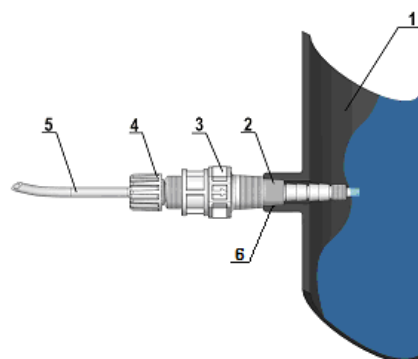

Fig. 7 - Fitting Assembly
Avoid excessive bends on the delivery pipe and on the suction pipe in order to prevent bottlenecks on the pipe. Apply a 3/8" or 1/2" gas female fitting on the piping of the system to be treated, at the most suitable point to inject the product to be dosed. This fitting is not included in the supply. Screw the injection valve in the "gasket fitting" by using PTFE tape, see Fig. 7. Connect the tube (5) to the tapered coupling of the injection valve (3) and block it with the specific ring nut (4). The injection valve (3) is also a check valve.